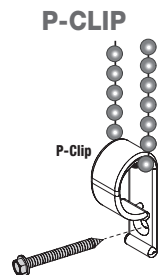

Figure 8
**Please Note:** Draper Bead Chain Clutch-Operated shades that do not comply with WMCA/ANSI Standard A100.1-2012 come with a P Clip cord tension device pre-attached to bead chain (Fig. 8). This device must be attached to wall, jamb, or sill so that bead chain is held taut enough that children cannot pull it away from wall or fit their head into loop.